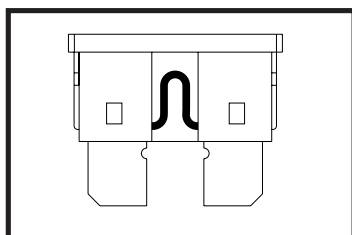

Figure 18. Working Fuse
2. Examine the fuse to be sure it is blown. See figures 18 and 19.